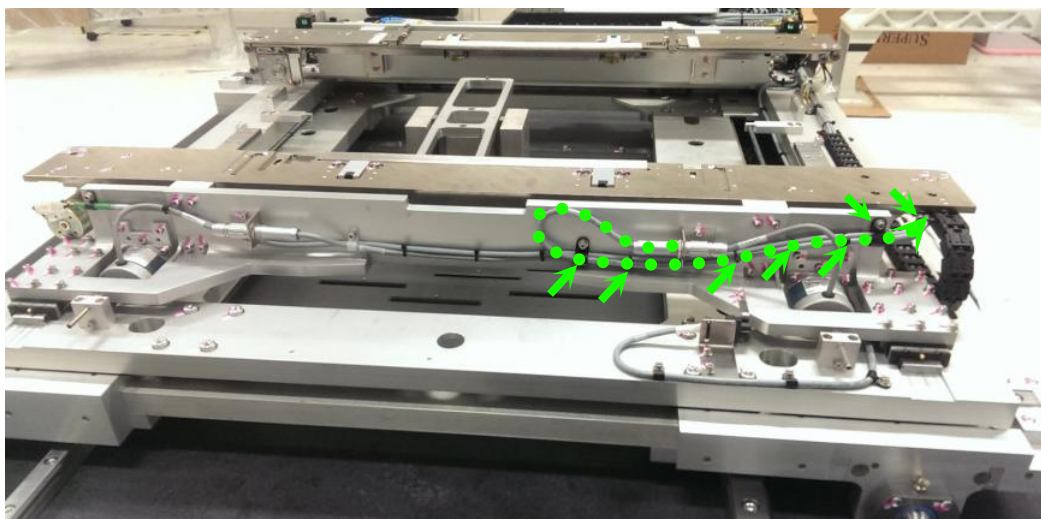

Figure 32 Stepper Motor Cable Routing
34. Gently route the Stepper Motor Cable as below Figure 32. Secure the cable with Cable Clamp as well.